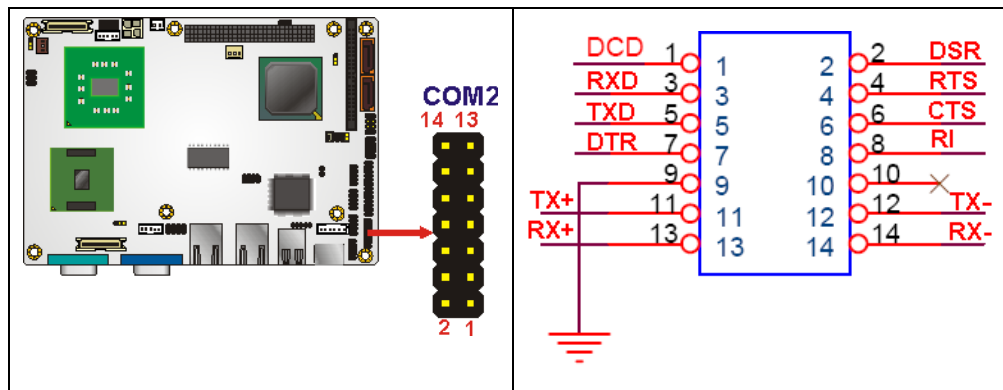

Figure 3-21: RS-232/422/485 Serial Port Connector Location
- CN Location:** See Figure 3-21